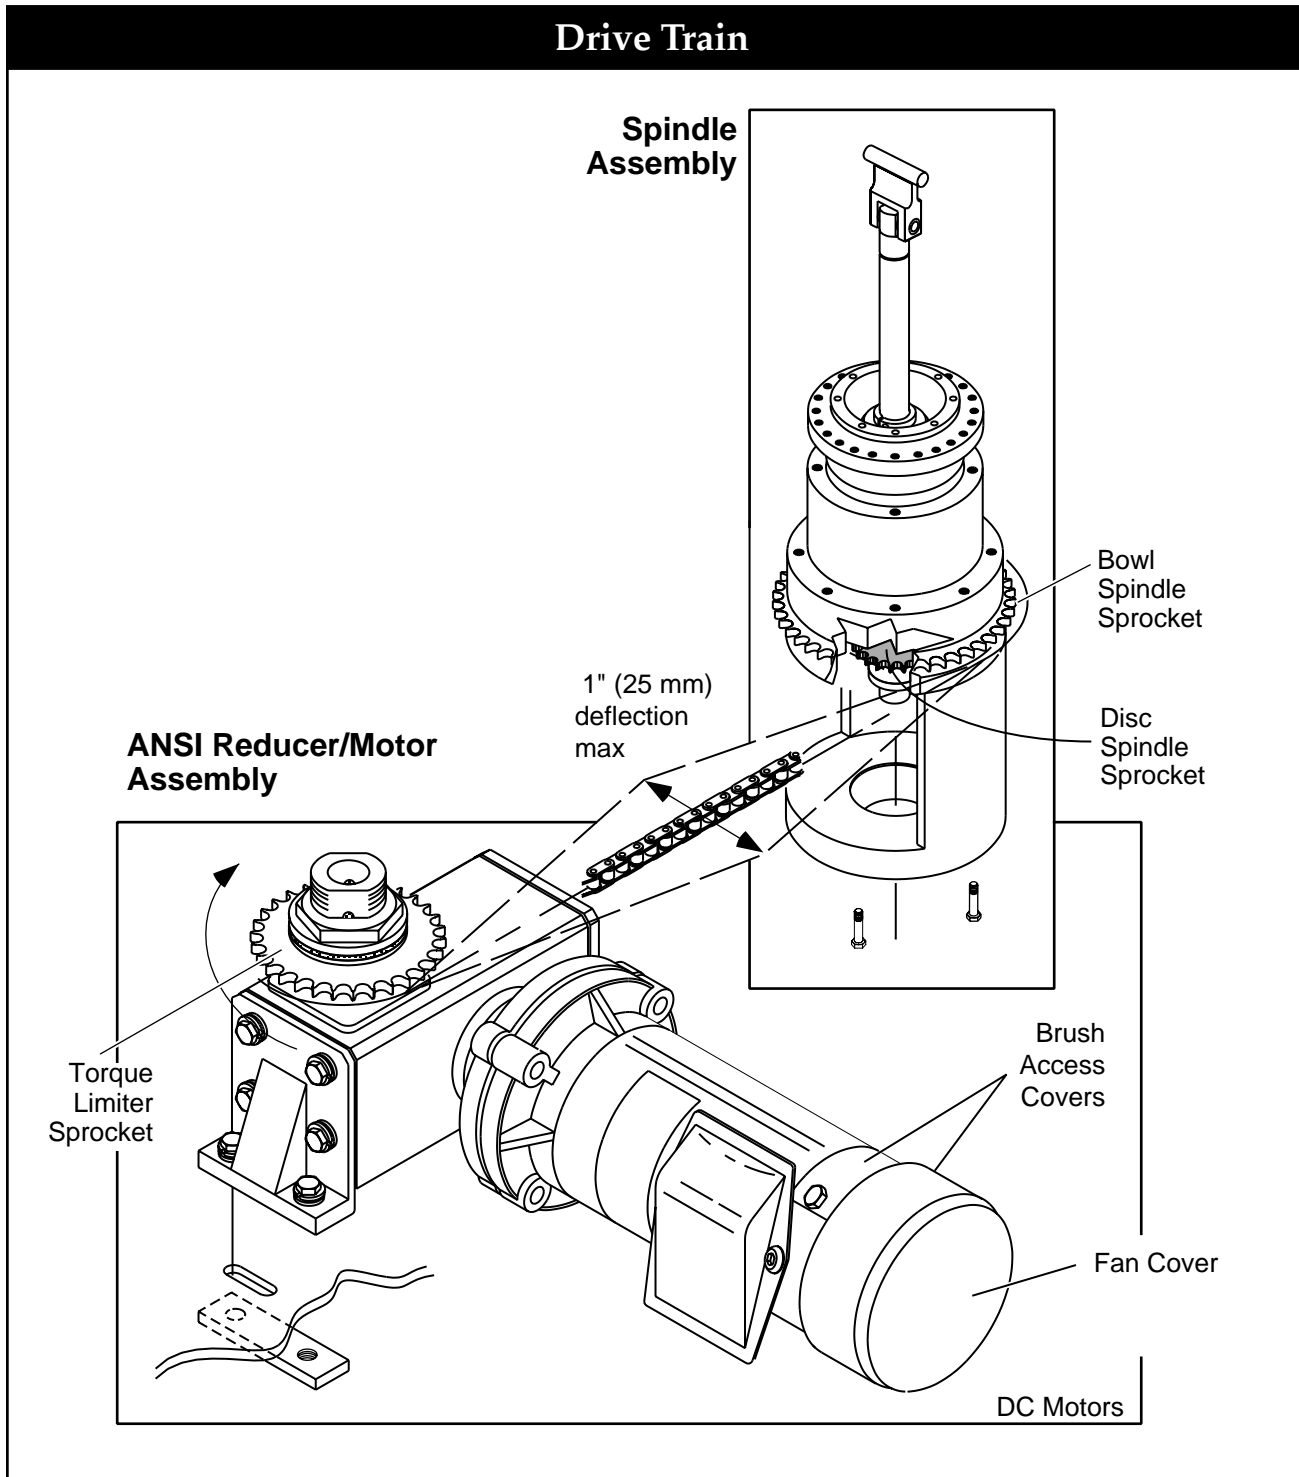

Figure 4-3. FTF-30-RD Drive Train (DC Motor)
**Step 2—Inspect Drive Chain.** Midway between the sprockets, grasp the chain and move it back and forth. You should not be able to move it more than 1" in either direction. If it moves more than 1", adjustment is required (see Figure 4-3.)
**Step 5—Replace Chain.** Replace chain and inspect chain tension (refer to Figure 4-3).
**Step □3—Adjust Vertical Runout.** Attach a dial indicator to the inside of any upper frame support. Set the indicator contact point vertical, perpendicular to the rim of the bowl, up to ¼" (6 mm) from the bowl's upper inside diameter (ID). Loosen jam nuts and locknuts above and below each arm of the bowl spider one arm at a time. Repeat as often as necessary while checking runout. Do not tighten jam nuts until Step 4.
**Step 7—Replace Chain & Covers.** Install bowl drive chain. Inspect chain tension (see Figure 4-3). Replace covers and reconnect power and air.